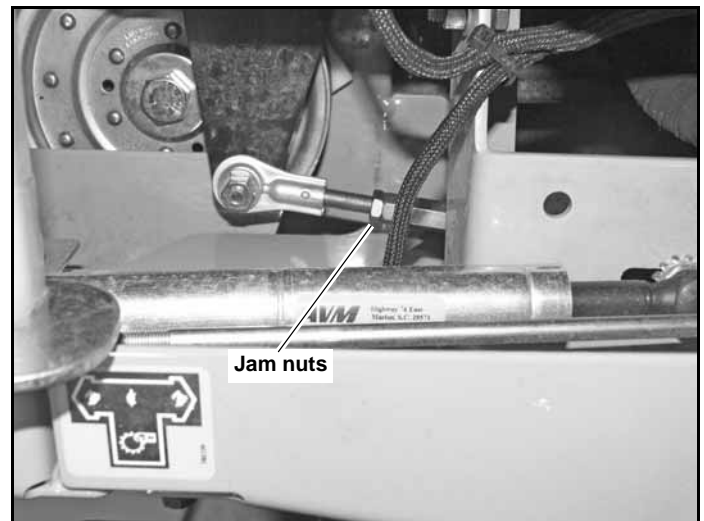

Figure 4-13
- a. Loosen the brake linkage jam nuts. (Figure 4-13) Rotate the tire and at the same time rotate the turnbuckle to shorten the length of the brake linkage to increase the brake pressure. When you feel the brake begin to engage, stop adjusting the turnbuckle. Re-tighten the jam nuts on the turnbuckle.